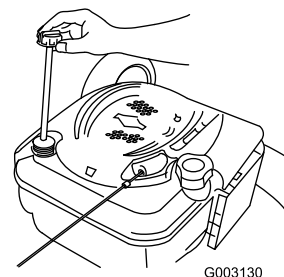

Figure 34
2. Retirez la jauge (Figure 34).